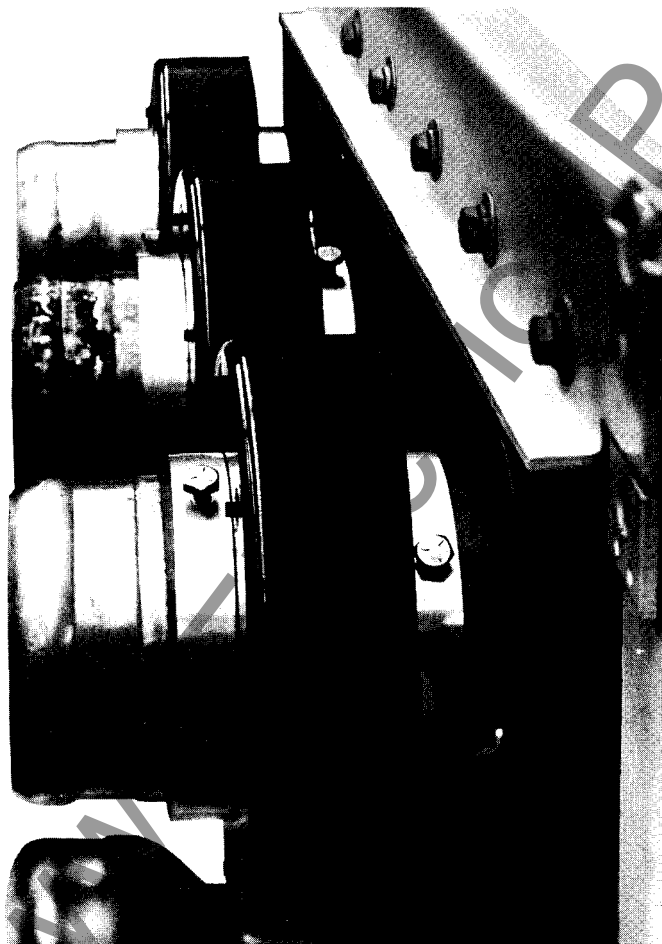

Fig. 3-6. Phase sensors installed — AK-75/100
2. The MicroVersaTrip™ sensors mount on the upper-breaker studs. The sensors are held on the stud with the locking rings, as shown in Fig. 3-6. Leave enough of the stud exposed for the primary fingers to engage. Engage the sensor's anti-turn lugs with the notch in the locking ring. Before tightening the locking rings, position each sensor so that its leads will exist between the pole bases, as shown in Fig. 3-8.